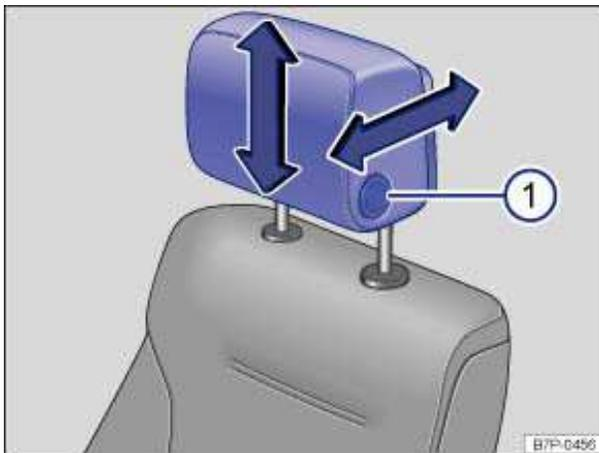
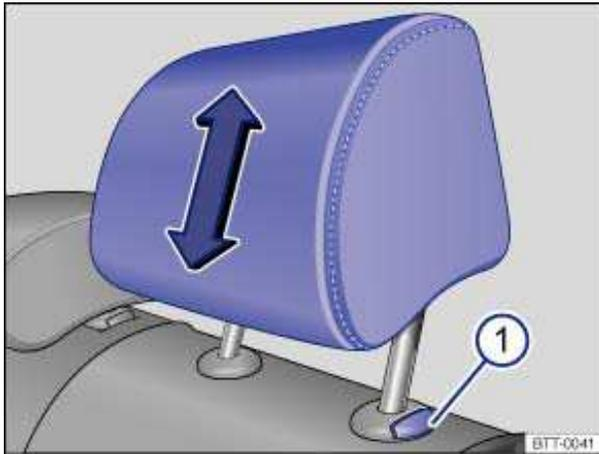

Fig. 45 Adjusting the front head restraints.
Fig. 46 Adjusting the rear head restraints.
- Push the head restraint up in the direction of the arrow or down when the button ⇒ fig. 45 \(1\) or ⇒ fig. 46 \(1\) is pressed ⇒ ⚠.
- You can move the head restraint forwards and, by pressing and holding the button ⇒ fig. 45 \(1\), backwards.